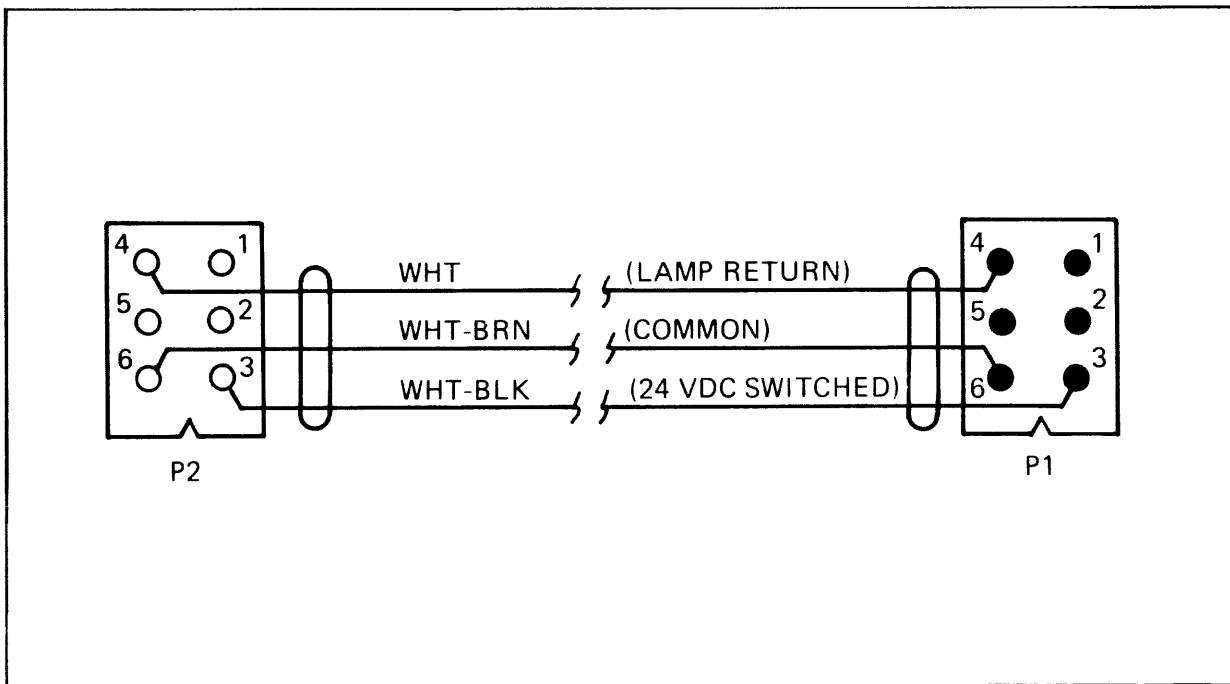

Figure 2-10. PCU-to-PCM Interconnecting Cable
5. Use the PCU-to-PCU/PCM Interconnecting Cable furnished with each PCU to connect J1 of the PCU to J2 of the PCM in the CPU Bay (see paragraph 2-15). figure 2-10 shows the wiring of the cable.